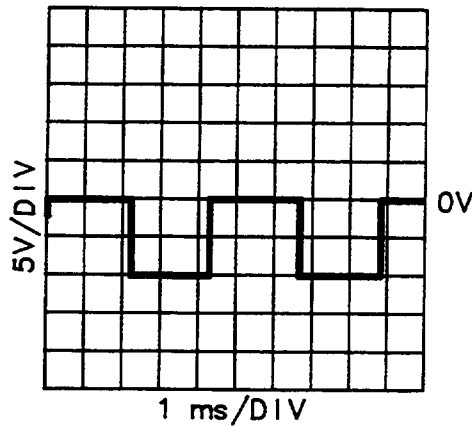

Figure 8-4. A4TP3, 220 Hz Multivibrator Waveform
6. Connect the oscilloscope to A4TP3 (220 Hz). Verify the signal shown in Figure 8-4.